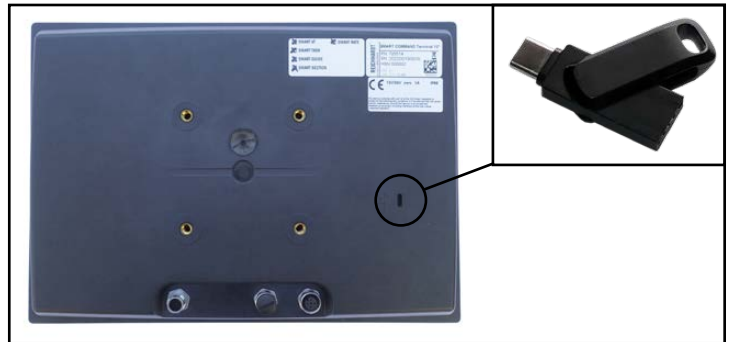

Fig. 164: Rear of the terminal with USB interface
Licenses can be stored and activated on the terminal via the USB-C connection on the rear of the SMART COMMAND terminal (see Fig. 164).
- The HSN is on the label on the rear of the SMART COMMAND terminal (see Fig. 164).